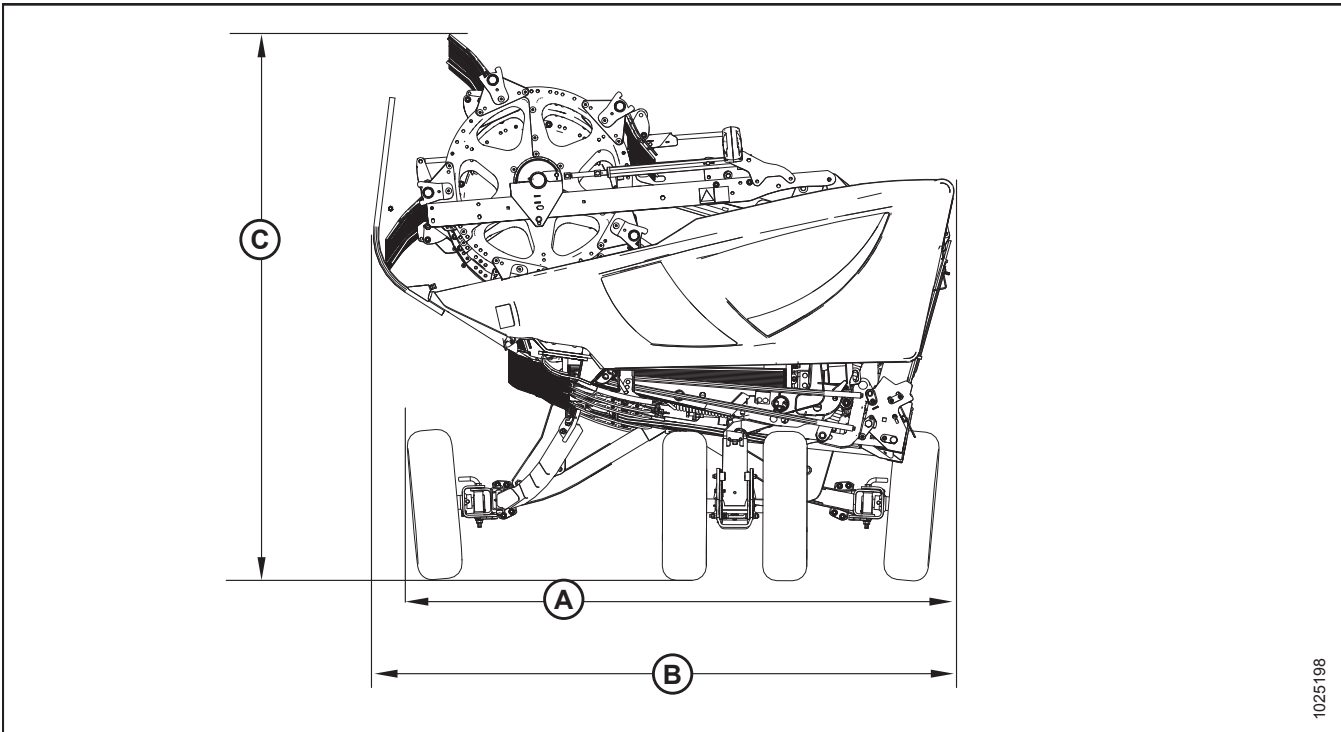

Figure 2.2: Header Width
2. Refer to Figure 2.2, page 32.